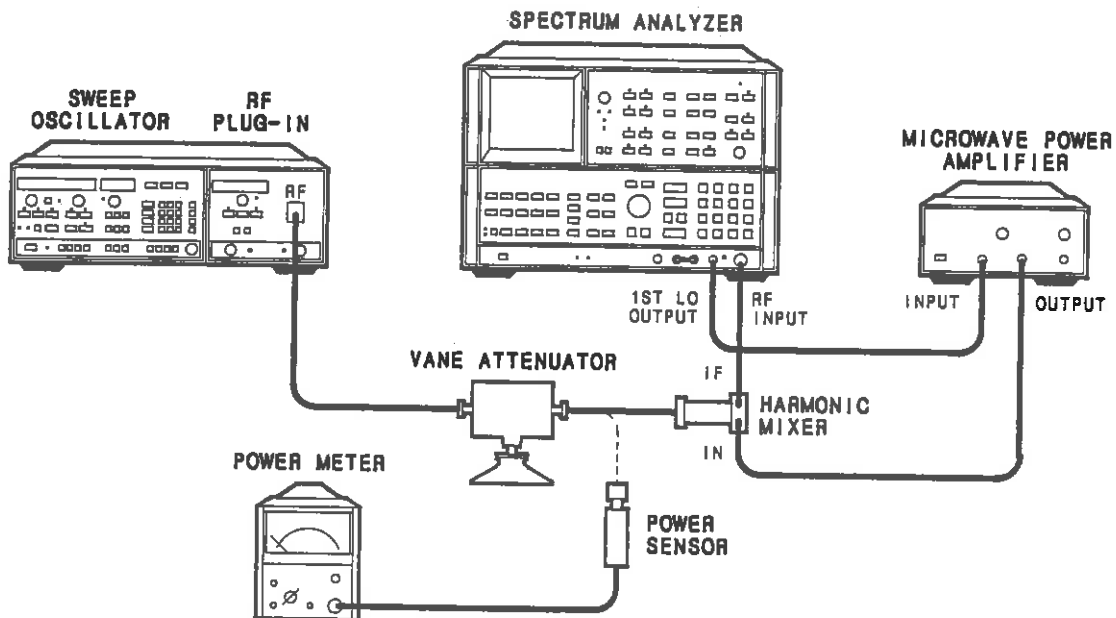

Figure 4-10. Spurious Signals Test Setup
1. Connect the equipment as shown in figure 4-10 with the RF plug-in RF output connected through the external mixer to the spectrum analyzer. Set the vane attenuator to 20 dB.
15. Disconnect the harmonic mixer from the vane attenuator. Connect the power sensor to the vane attenuator as shown in figure 4-10. Verify that the vane attenuator is set to 20 dB.